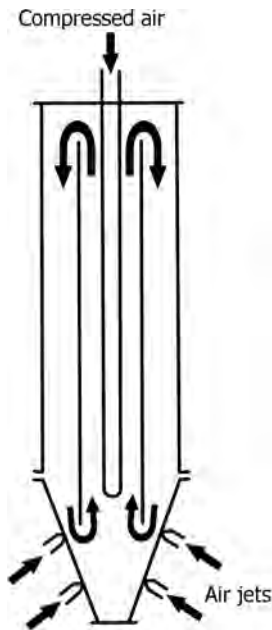

FIGURE 17.65 Pachuca tank.
- Figure 17.65 illustrates the operation of a Pachuca tank.